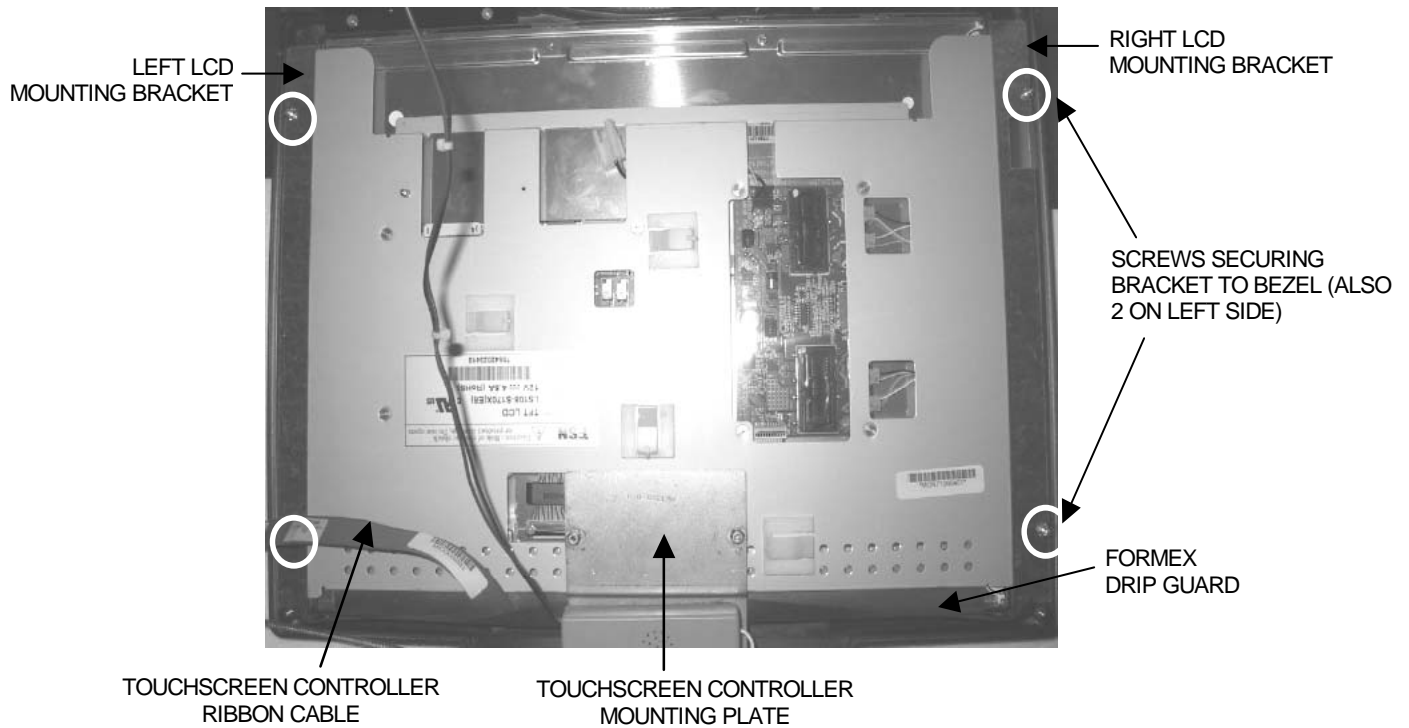
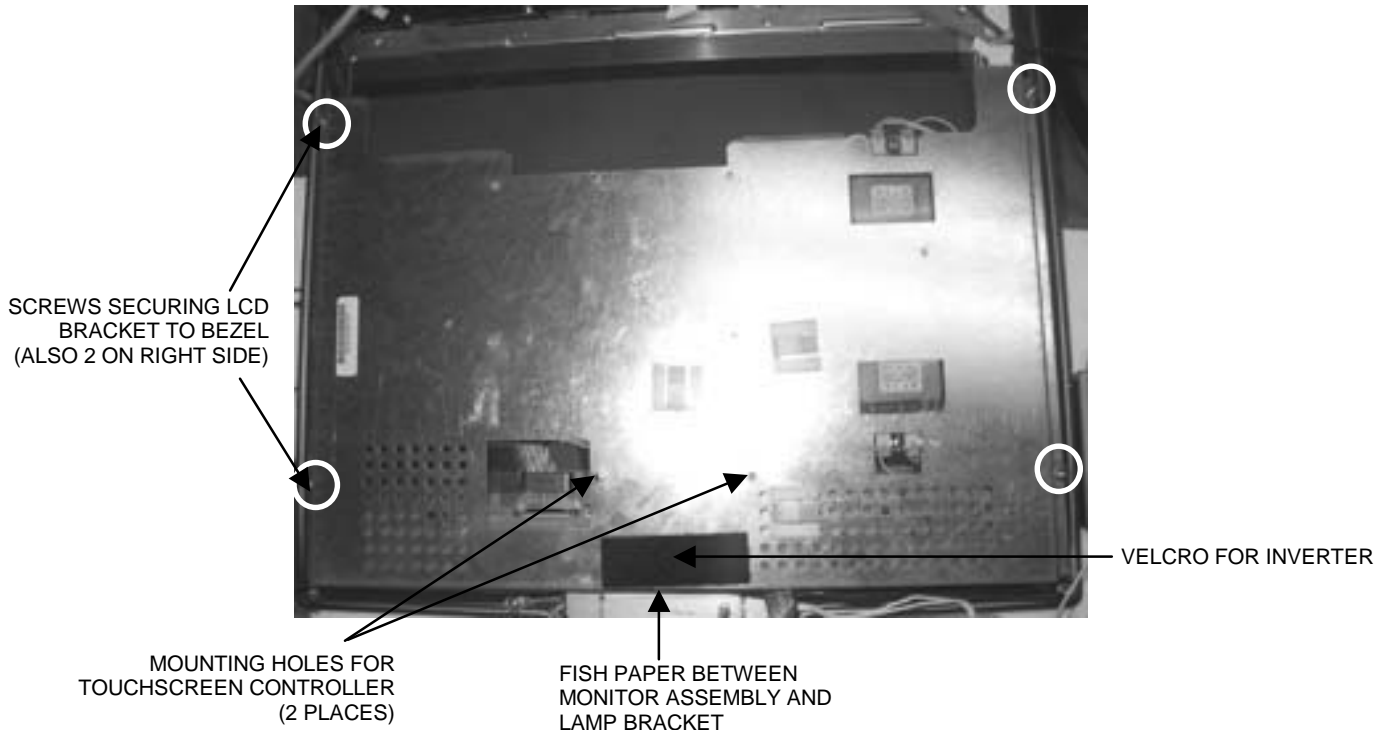

FIGURE 8 – REAR VIEW OF 17" MONITOR
FIGURE 9 – REAR VIEW OF 19" MONITOR
13. Remove the 4 screws securing either the left and right LCD mounting brackets to the bezel (17") or the LCD bracket to the bezel (19" and Widescreen), then carefully slide the monitor assembly out of the bezel. See Figure 8 for 17" games, Figure 9 for 19" and Widescreen games.
14. For 17" games: Remove the 4 screws securing the LCD mounting brackets to the monitor (2 per bracket). If replacing the monitor, remove the fish paper/foam tape strip attached to the top edge of the monitor. See Figure 8.
2. *If replacing only the monitor:* Carefully place the touchscreen over the new monitor in the same manner it was attached to the old monitor, making sure that the screen is properly and evenly aligned over the monitor glass. Clean the front of the touchscreen with an alcohol wipe once it is in place. Reattach the fish paper foam tape strip to the top edge of the monitor (17" games only; see Figure 8). You may need to attach the provided wire clamps to the rear of the monitor assembly. If so, note their location on the rear of the monitor your removed.
*If replacing both the monitor and the touchscreen:* Carefully place the new touchscreen over the new monitor in the same manner that the old touchscreen and monitor were attached, making sure that the screen is properly and evenly aligned over the monitor glass. Clean the front of the touchscreen with an alcohol wipe once it is in place. Reattach the fish paper foam tape strip to the top edge of the monitor/touchscreen assembly (17" games only; see Figure 8). You may need to attach the provided wire clamps to the rear of the monitor assembly. If so, note their location on the rear of the monitor your removed.
3. *For 17" games:* Replace the left and right mounting brackets on the monitor and secure each with 2 screws. Carefully slide the new monitor into the bezel, making certain that the edge of the monitor with the fish paper is secured underneath the touchscreen controller's mounting plate. Ensure that the monitor is properly centered, then secure the mounting brackets to the bezel with 4 screws. See Figure 8.
*For 19" and Widescreen games:* Carefully slide the new monitor assembly into the bezel, making sure (on standard 19" models) that the strip of fish paper is secured between the edge of the assembly with the Velcro and lamp mounting bracket. Ensure that the monitor is properly centered, then secure the LCD bracket to the bezel with 4 screws. See Figure 9.